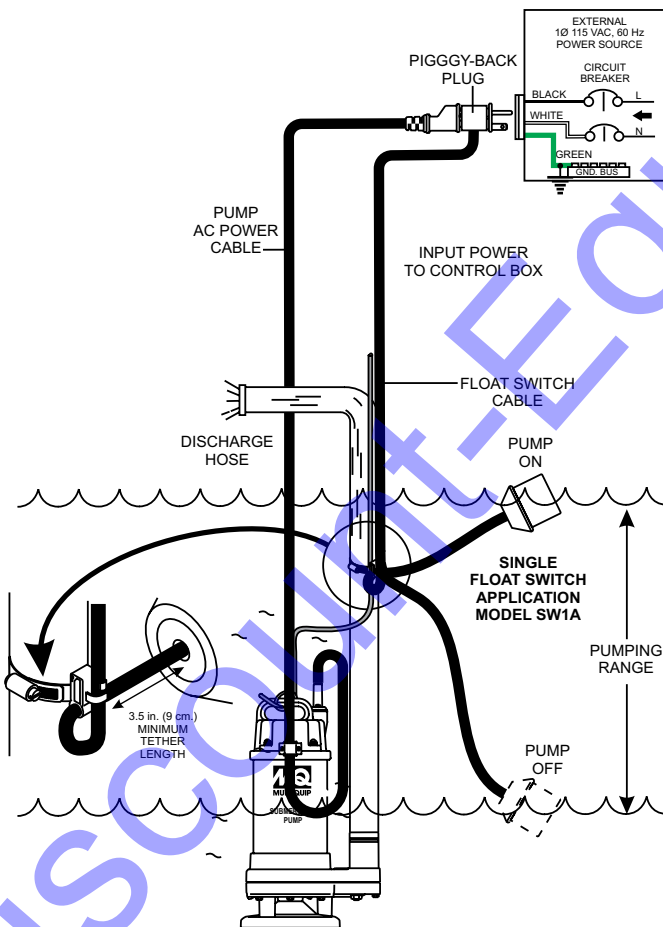
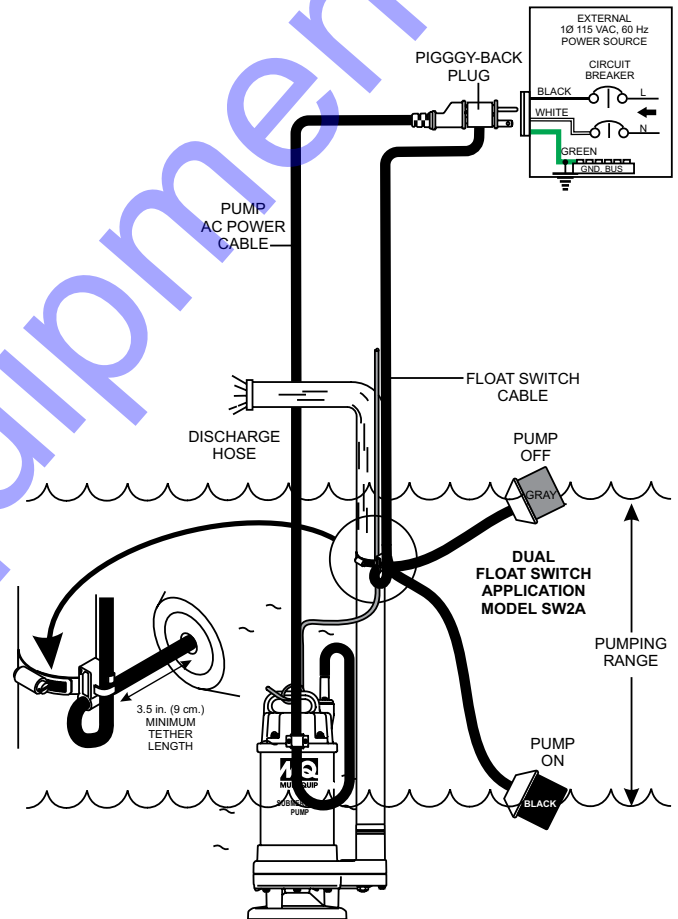

Figure 8. Single Float Switch Application
Figure 9. Dual Float Switch Application
2. Place the cord into the clamp as shown in Figure 8 and Figure 9
3. Secure the clamp to the discharge hose as shown in Figure 8. **DO NOT** install cord under hose clamp.
3. Determine the tether length of the float switch wires then secure float switch wires to pump discharge hose. See Figure 8 or Figure 9 and Table 3 to determine the pumping range.